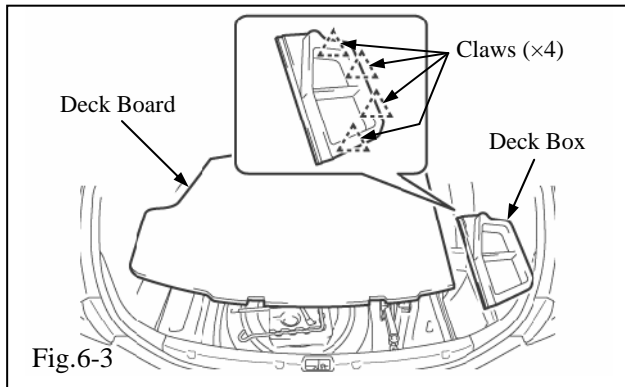

Fig.6-3
- (d) Install the deck board and deck box.(Fig. 6-3)